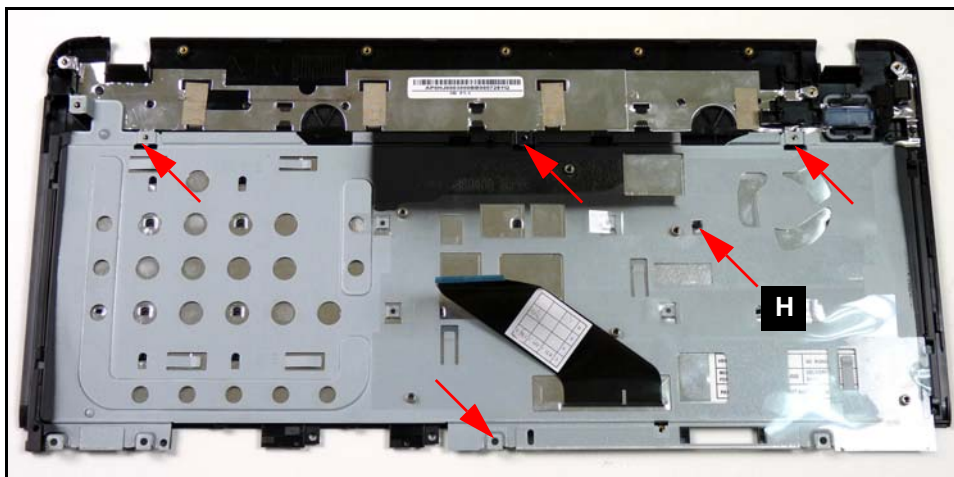

Figure 3-41. Keyboard Support Plate Guides
Align support plate slots with upper cover guides before securing screws. Support plate must be secured under latch guide (H). (Figure 3-41)